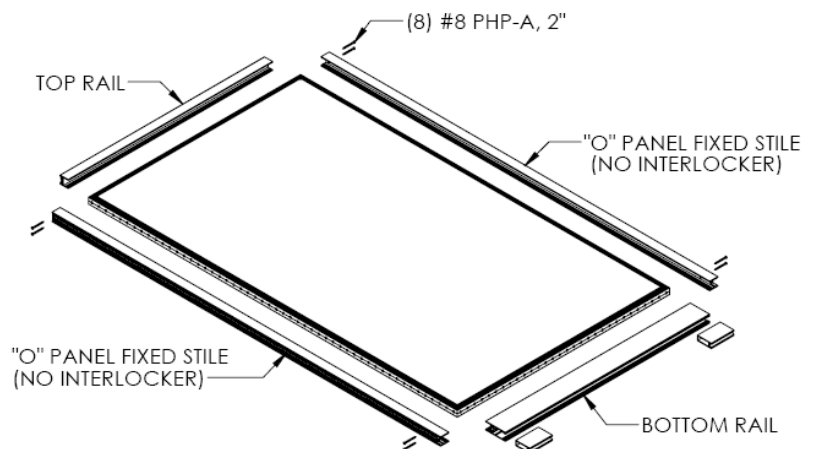

Figure 6:
3. Finish assembly by inserting (8) #8 x 2" pan head screws into the fixed stile screw grooves in the top and bottom rails (Figure 6). Add wax to the ends of all fasteners to reduce the drive torque required for installation.